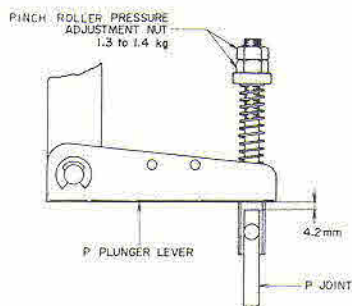

Fig. 3
- 2) Insert a 4.2 mm gauge (a U type washer etc.) between the P Plunger Lever and P Joint (Refer to Fig. 3).
### 3. PINCH ROLLER PRESSURE ADJUSTMENT (Refer to Fig. 3)